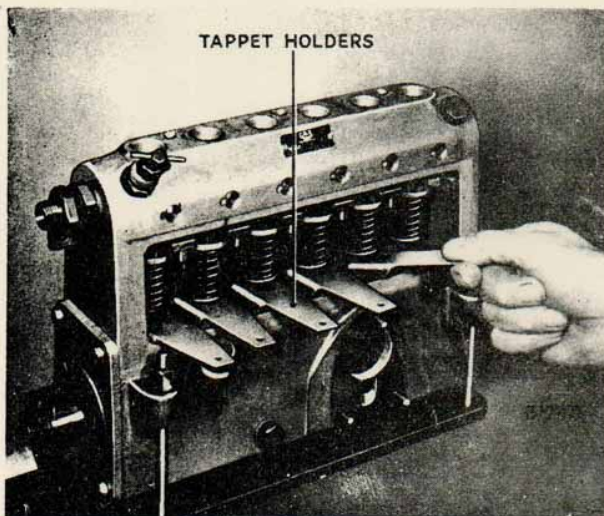

FIG. 19. FITTING TAPPET HOLDERS.
4. Rotate the camshaft to bring each tappet assembly to its top dead centre position and insert the tappet holder under the head of the tappet adjusting screw (Fig.19).